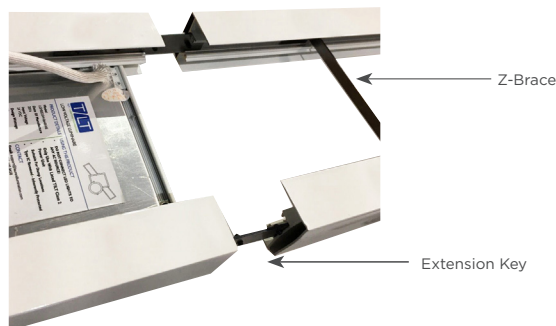

Figure 6
- 10 Attach one HK02 cable to the next section. Insert frame section B into the extension keys of section A frame, as shown in figure 6.